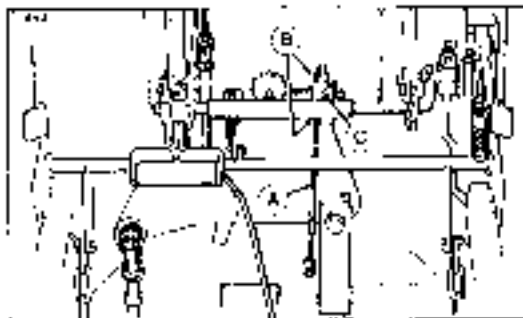

Figure 40. Hydro Control Rod
2. Loosen nuts (B, figure 40) on either side of guide (C).
6. Loosen the pan nut (U). Turn the inner nut (O) either left or right until the output pin (C) stops turning.
7. Tighten the two cap screws (A).
8. Tighten the pan nut (B) against inner nut (O).
11. Tighten the top nuts (D, figure 40) against the guide. Make sure rod guide does not move when tightening top nuts.